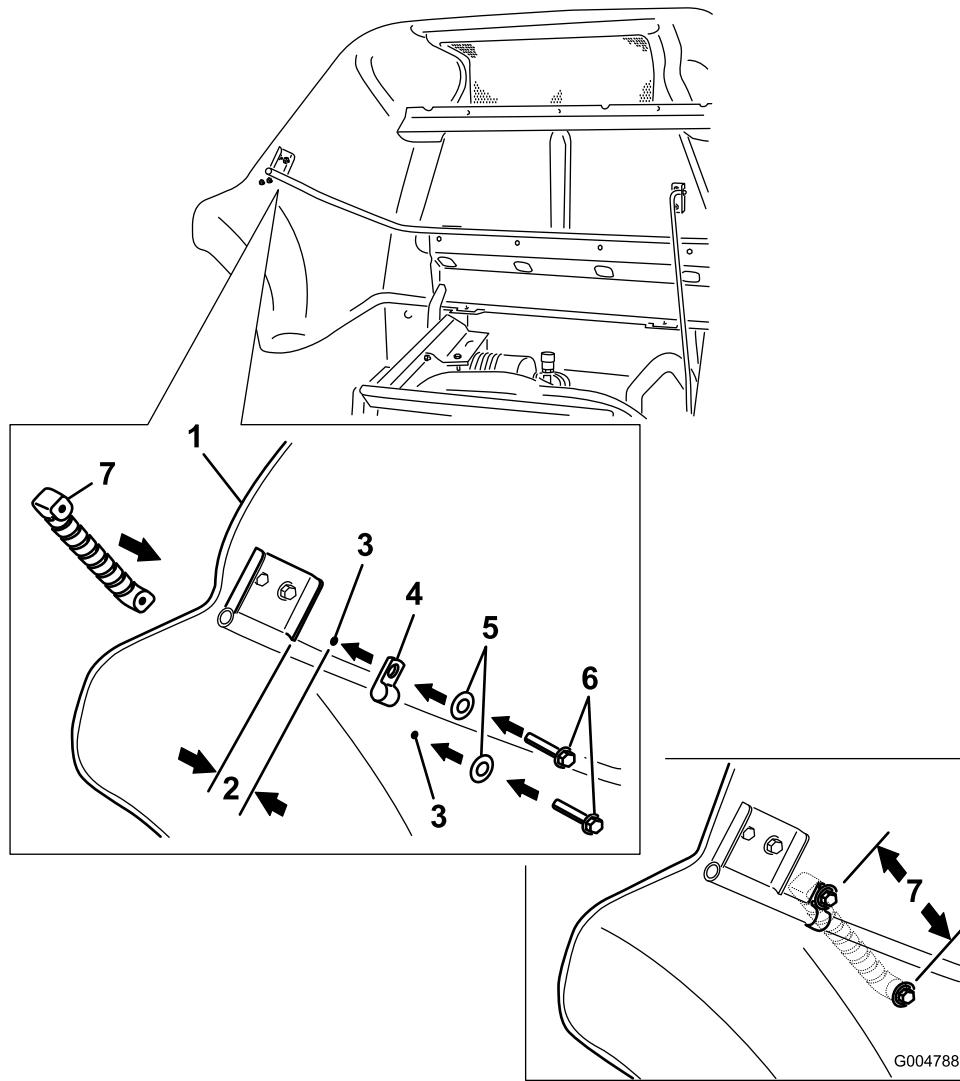

Figure 7
2. Measure along the rail, from the support edge, 3.8 cm (1-1/2 inches) as shown in Figure 7.
6. With the hood handle in the approximate position shown in Figure 7, mark the second hole to drill.
9. Secure the handle to the hood using the other washer (5/16 inch) and bolt (1/4 x 1-1/8 inches) as shown in Figure 7.